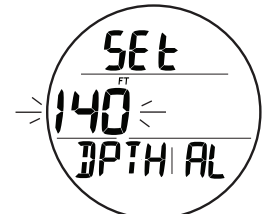

Fig. 51 - SET DEPTH AL
**Set Depth Alarm**, information includes (Fig. 51):